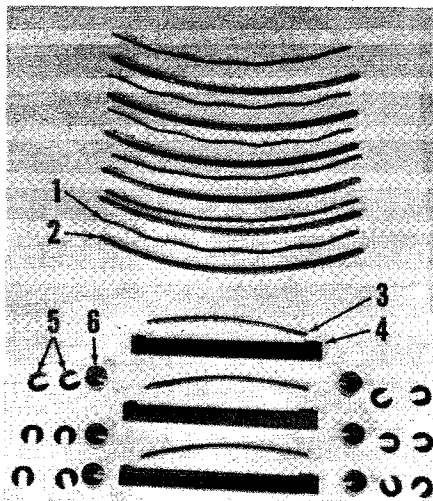

Fig. 17—Exploded view of rotor seals which take the place of piston rings in piston engine.
**INSPECTION.** Note condition of rotor seals (Fig. 17). Side seal (wave) springs (1) are installed with tips of spring pointing down in groove. Apex seal pin springs (5) should be mated as shown in Fig. 18. Carbon should be carefully removed from seal grooves. Seal side clearance should not exceed 0.004 in. Renew rotor and bearing assembly if clearance is excessive.